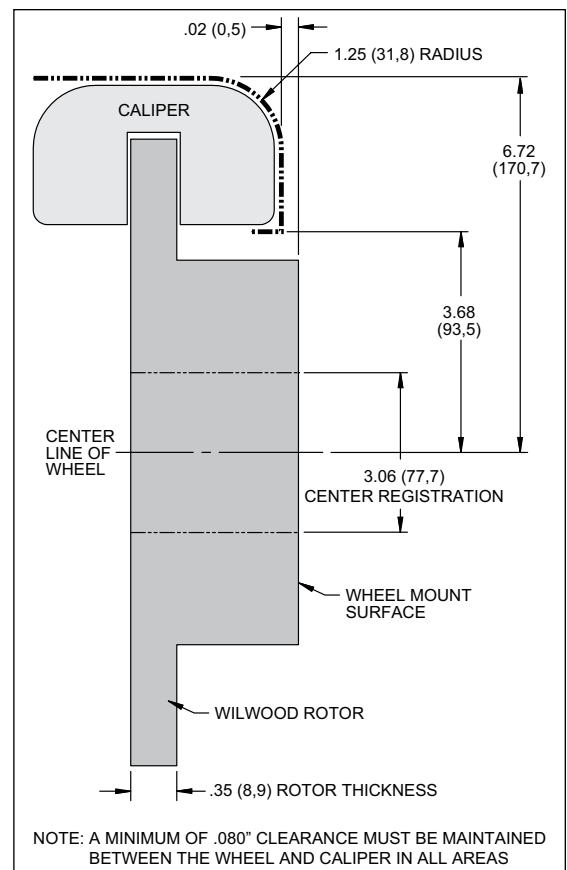

Figure 4. Wheel Clearance Diagram
- Review the Wheel Clearance Diagram (Figure 4) to verify that there is adequate clearance with the wheels you will be using with the installation.
- Verify your wheel clearance using Figure 4.